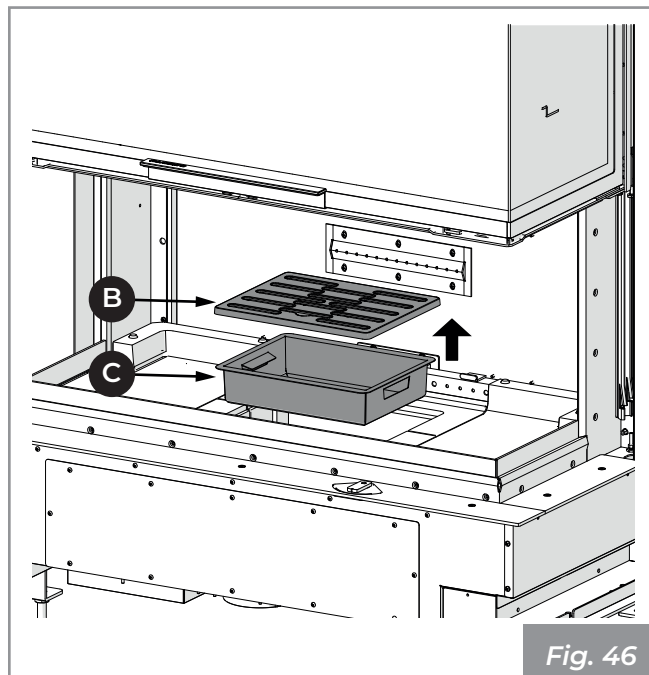

Fig. 46
- 2) Lift and extract the grate (B) and ash drawer (C) (Fig. 46).